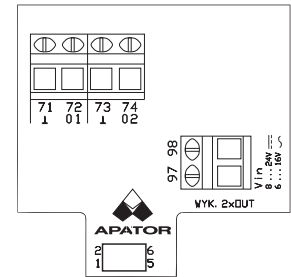

Fig. 27
1. module with 2 impulse outputs (Fig. 27, module code: 016): impulse outputs can operate in different classes: OB, OC and OD (according to PN-EN 1434-2). Due to the high average power consumption is recommended to use the module versions with external power supply. In each case, the outputs are galvanically isolated from the calculator